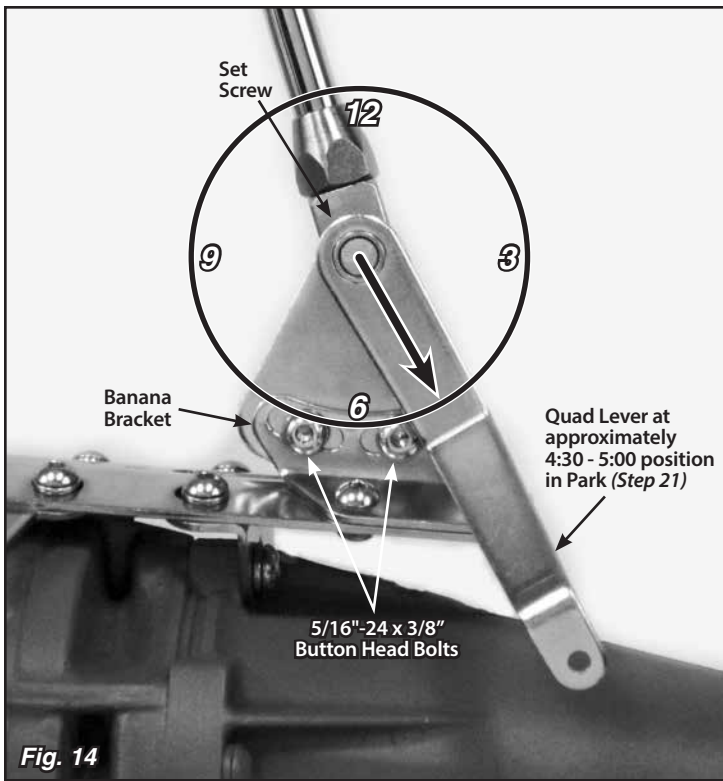

Fig. 14
Step 20: Make sure the two 5/16"-24 x 3/8" button head bolts that attach the left side banana bracket to the shifter assembly (in the curved, slotted holes) are tight. Before tightening the shifter assembly down to the main plate, move the shifter lever through all the gear positions. Make sure that the shifter lever and knob do not come in contact with the dash or the seat. The shifter assembly can be tilted forward or backward if needed by loosening the 5/16"-24 x 3/8" button head bolts in the curved, slotted holes in the left side banana bracket. **Fig. 14**
Step 21: Put the shifter lever into the Park position and check the position of the quad lever. It will need to be pointing to approximately the 4:30 - 5:00 position. If it is not, loosen the set screw in the top of the quad lever with a 1/8" Allen wrench and slide the quad lever off of the shaft. Reposition it on the shaft at approximately the 4:30 - 5:00 position, and retighten the set screw. **Fig. 14**
Double check to make sure that the bolts connecting the **left** side banana bracket to the shifter assembly are tight. **Fig. 14**